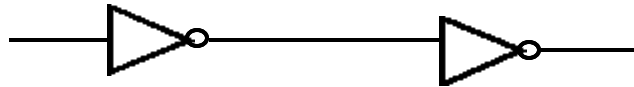

Figure 1.1
- With these assumptions what will the gate delay of the first inverter, assuming it is not resized from that of Figure 1.1?
- Now consider the effect of drain capacitance on question (b). Assume that in the original inverter chain of Fig. 1.1, the drain capacitances contributed to 25% of the loading of any node (of which the p-channel contributed 2/3 and the n-channel 1/3 because of their relative sizes). When we resize the first inverter to drive the large fan-out load, we necessarily increase its drain capacitances; consequently it will not speed up the circuit as much as we planned. Take this fact into account and recompute part (b).